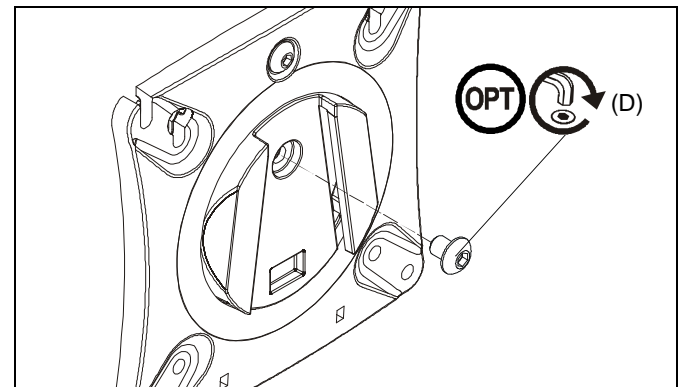

Figure 7
NOTE: (Optional) Rotational adjustment may be locked by installing rotational locking screw (D) into back of faceplate. (See Figure 7)